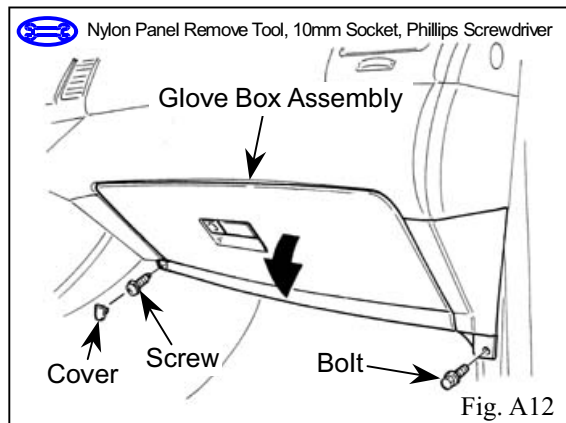

Fig. A12
14. Close the glove box assembly latch and then remove the remaining one screw and one bolt. (Fig. A12)